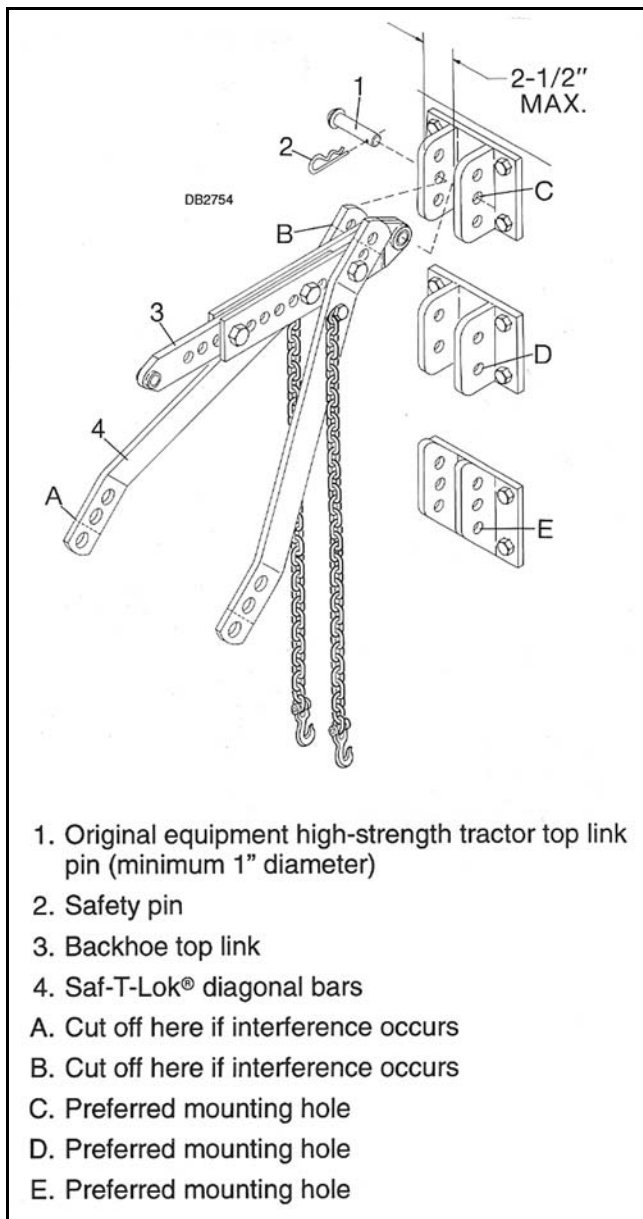

Figure 25. Top Link and Saf-T-Lok Hitch Installation
■ **There may be more than one hole provided in tractor top link attachment bracket; select the hole that most evenly distributes the load between top link bracket and its mounting bolts. See Figure 25.**